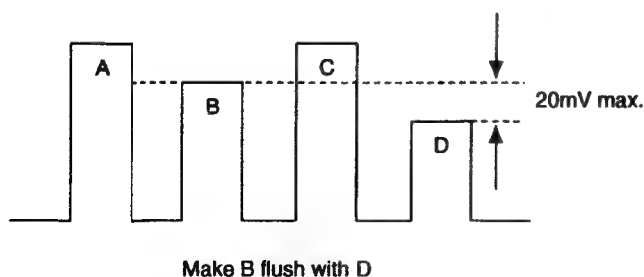

Fig. 5-12
3. Connect the probe of an oscilloscope to IC404 ⑩ PIN or TP402.
5. Adjust **[SUB CHROMA NORMAL]** so that the peaks of waveforms will be flush with each other as shown in Fig.5-12.
2. Input adjustment value 98 to **[SUB CHROMA NORMAL]**. (Fig.5-12)